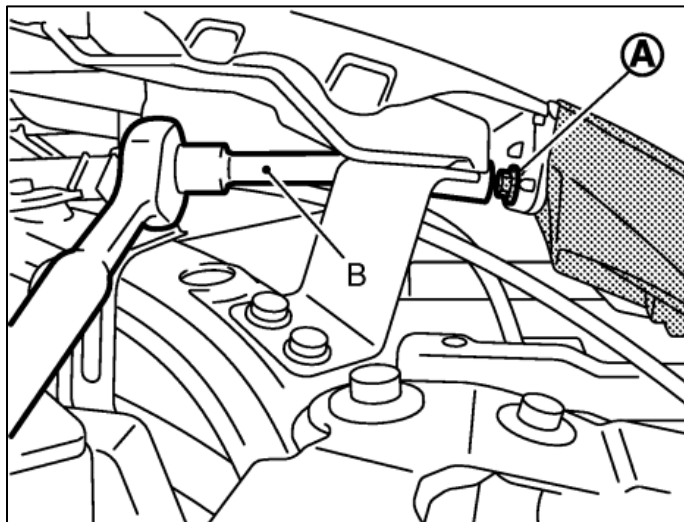

Figure 4
6. Remove the bolts securing the Front Bumper to the Front Fender on both sides of the vehicle. *Figure 4.*